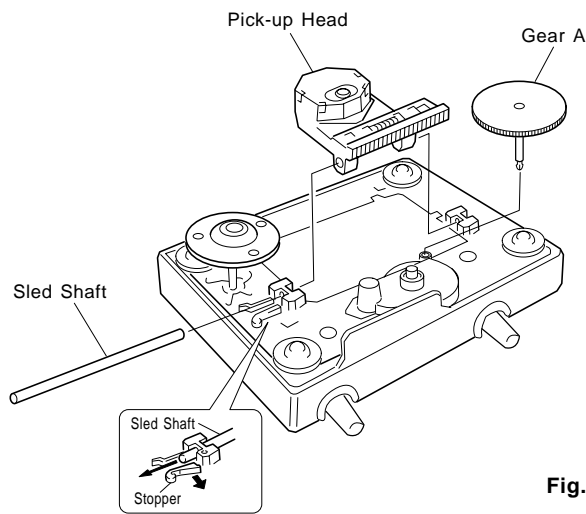

Fig. 12
- a. Remove the Gear A in Fig. 12.
- b. Pull out the Sled Shaft and remove the Pick-up Head in Fig. 12.